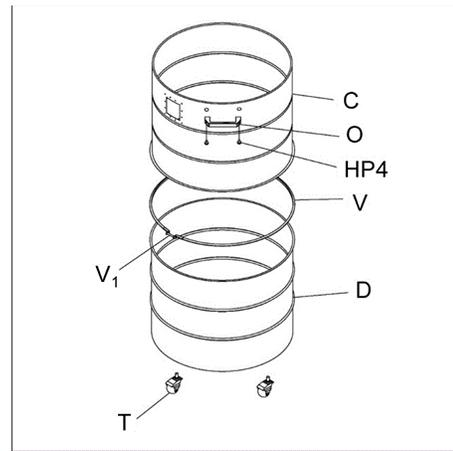

Figure 5-8
16. Assemble upper drum (C, Figure 5-8) to lower drum (D) and secure with drum clamp (V) by tightening screw (V₁).
17. Install handle (O) with screws (HP4). Handle should be opposite side from lower ports.
18. Turn drum over and install casters (T) into threaded holes beneath drum. Use the provided wrench to tighten.